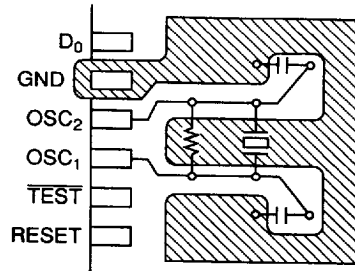

Figure 14 Typical Layout of Crystal and Ceramic Oscillator
select the type. In addition, see figure 14 for the layout of the crystal or ceramic oscillator.
2. Wiring among OSC₁, OSC₂, and elements should be as short as possible, and never cross other wiring. Refer to figure 14.